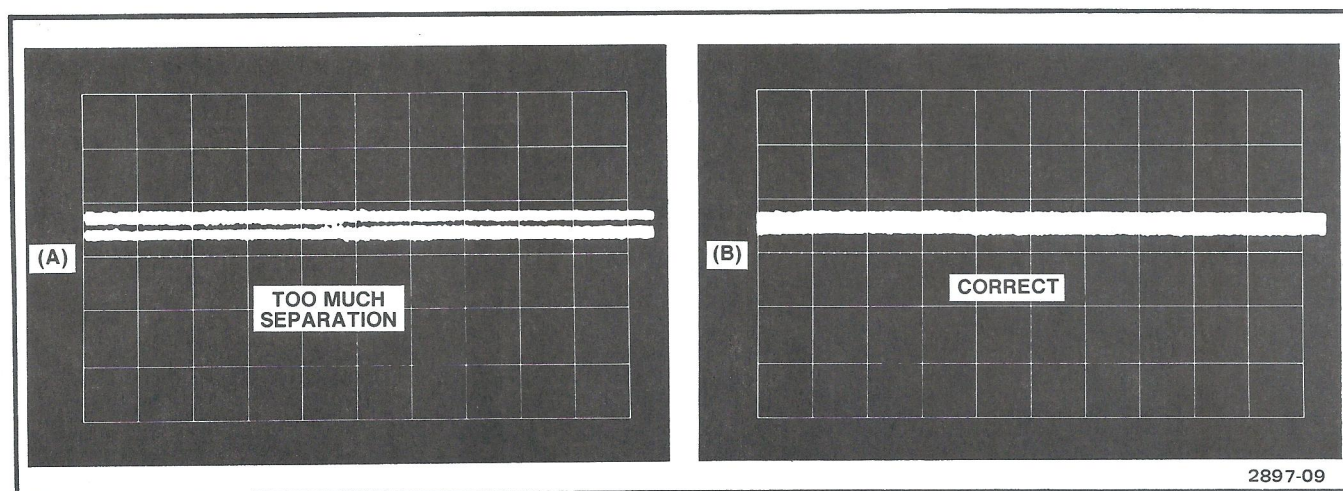

Fig. 7. Display of tangentially-measured noise (A) incorrect; dark area showing between traces, (B) correct display.
a. Adjust calibration generator amplitude until two free-running traces just merge (no dark area between traces). See Fig. 7.